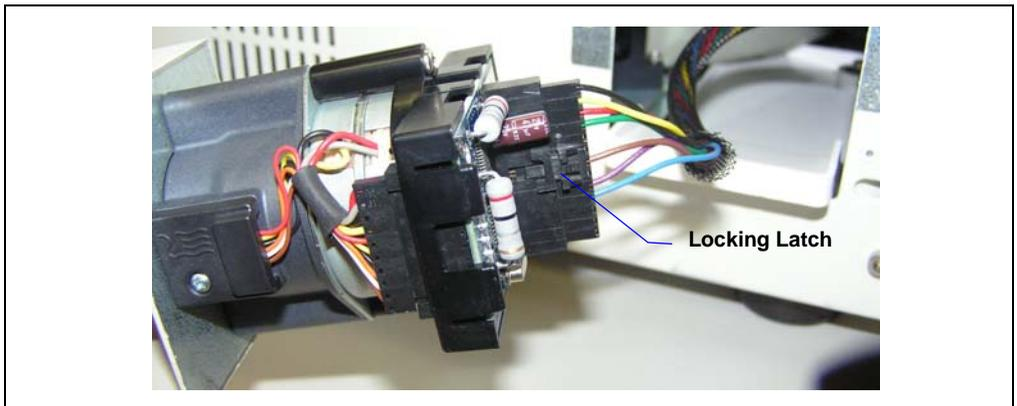

Figure B-4. Connecting the Valve Cable
5. Align the electrical cable with the connector on the back of the valve (see Figure B-4).